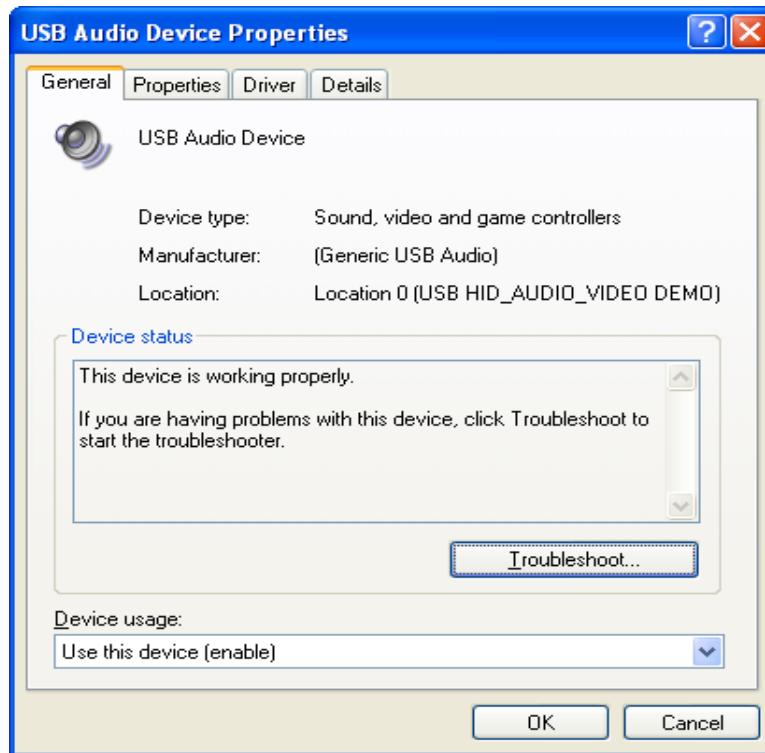

Figure L-12. USB Audio Device Properties dialog
1. Double-click on the USB Audio device icon, USB Audio device Properties dialog appears as shown in Figure L-12